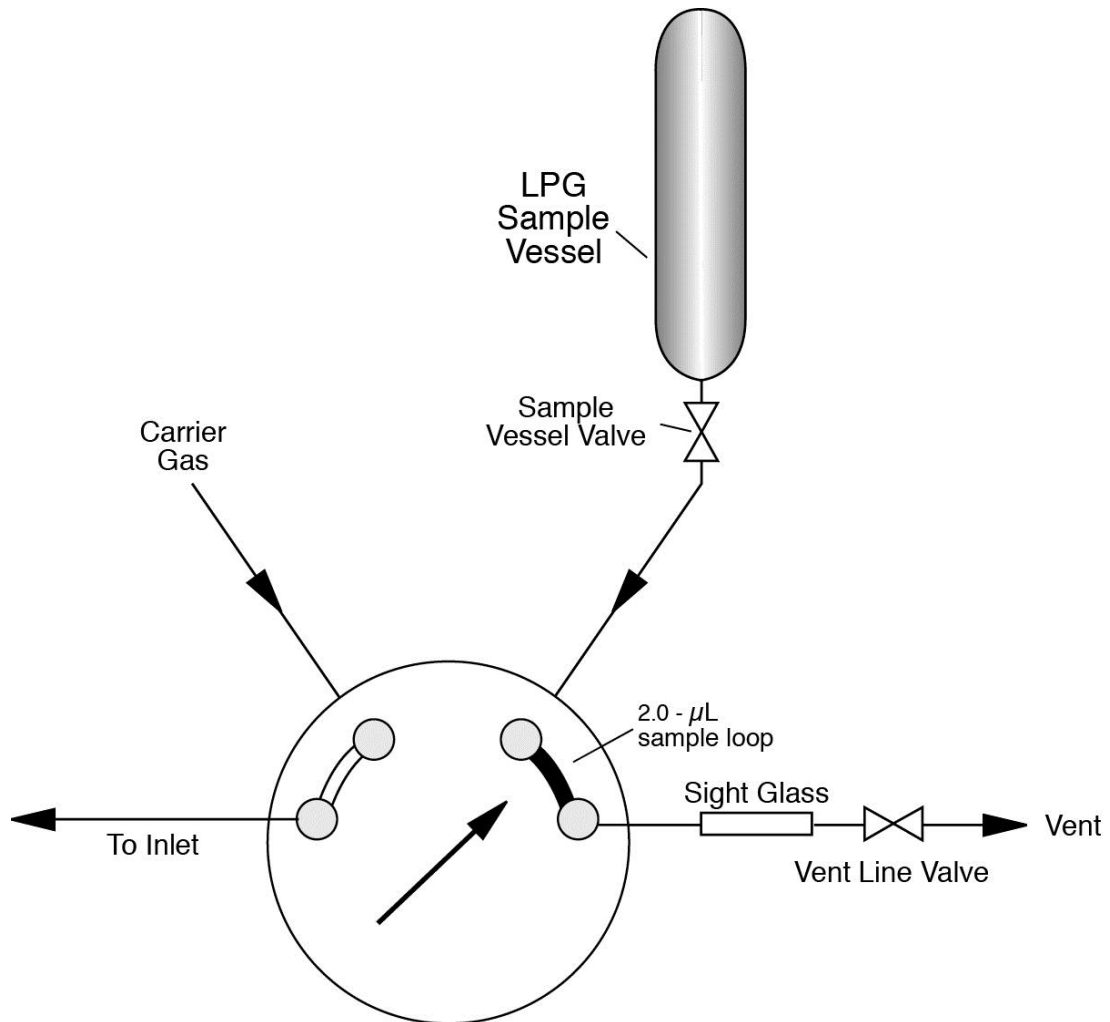

Figure 1
3. Install the injection valve in the carrier gas line just ahead of the injection port and connect the valve ports according to the manufacturer's instructions (Figure 1).
1. Connect about 5-10 cm of FEP Teflon tubing to the outlet port of the injection valve as shown in Figure 1.